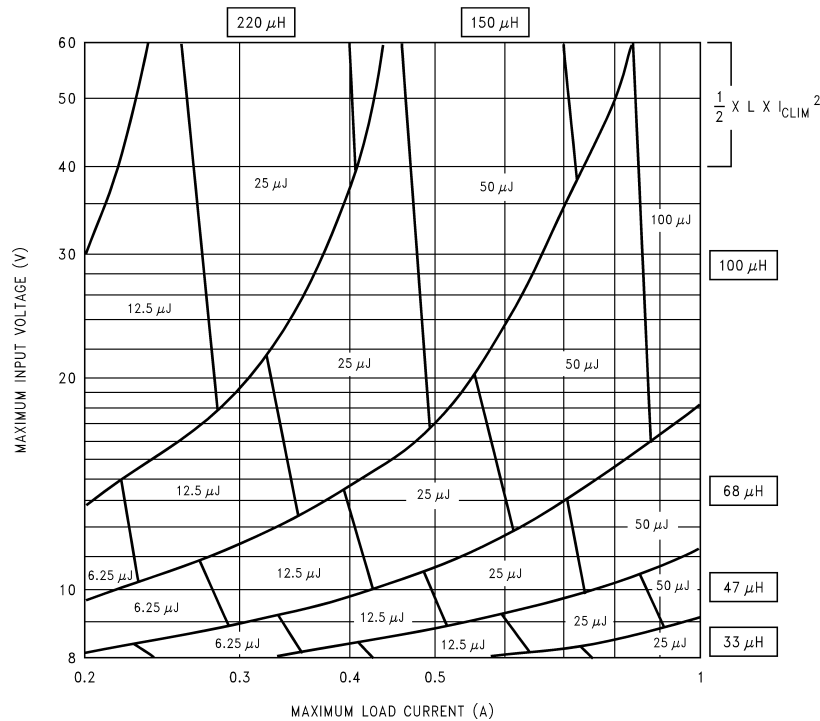

Figure 26. LM2591HV-5.0
1. A first pass inductor selection is based upon *Inductance and rated max load current*. We choose an inductor with the Inductance value indicated by the nomograph (see Figure 26) and a current rating equal to the maximum load current. We therefore quick-select a  $100\mu\text{H}/0.8\text{A}$  inductor (designed for 150 kHz operation) for this application.
2. We should confirm that it is rated to handle 50  $\mu\text{J}$  (see Figure 26) by either estimating the peak current or by a detailed calculation as shown in AN-1197 SNVA038, and also that the losses are acceptable.
1. A first pass inductor selection is based upon *Inductance and the switch current limit*. We choose an inductor with the Inductance value indicated by the nomograph (Figure 26) and a current rating equal to  $I_{CLIM}$ . We therefore quick-select a 100 $\mu$ H/3A inductor (designed for 150 kHz operation) for this application.